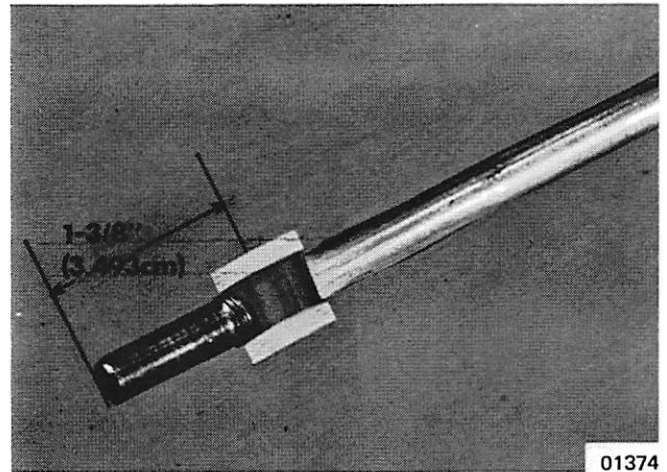

Figure 1. Distance from Cable End to Center of Brass Barrel
4. Distance from end of cable to center line of brass barrel assembly must measure exactly 1-3/8" (3.5cm). (Figure 1)